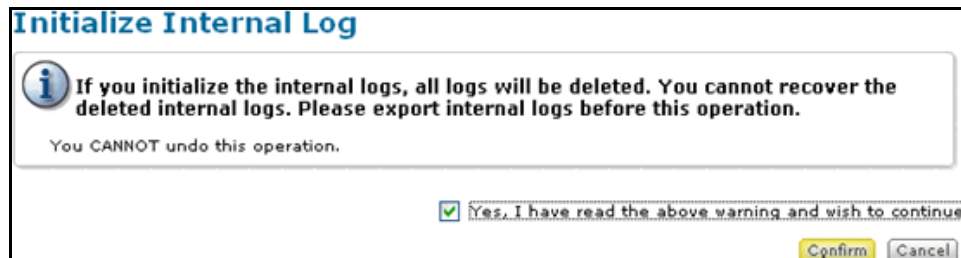

Figure 4-6: Initialize Internal Log Window
4. Select the **Audit Logging** icon in the Security tree view. The Audit Logging window is displayed (see Figure 4-6).